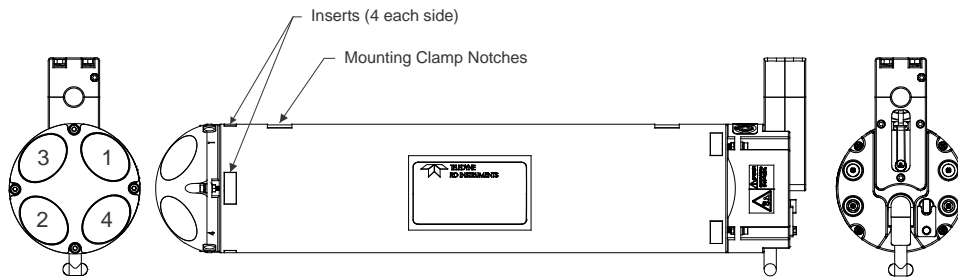

Figure 34. DVS Assembly – 6000 Meter
4. Orient the housing so that the mounting clamp notches and inserts match Figure 34. The transducer side of the housing has the inserts centered with the mounting clamp notches.
4. Slide the end-cap into the housing holding the cables with one hand so they do not get pinched. Only slide the end-cap into the housing far enough to connect the cables. Align the end-cap with the housing as shown in Figure 34.